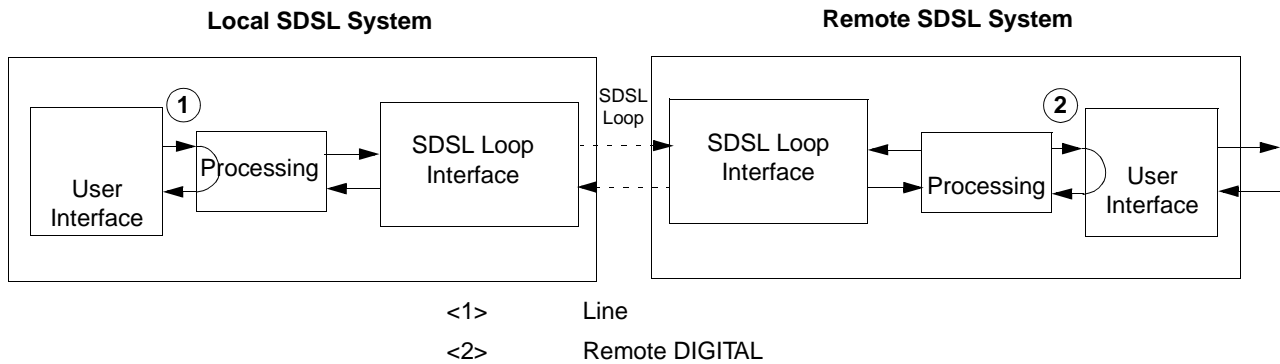

Figure 4-2 Loopbacks Signal Paths
This function is used to enable/disable loopbacks on the user's equipment interface and on the SDSL loop for maintenance purposes. The SDSL systems offered by GDC provide two types of test loopbacks. Figure 4-2 shows the simplified signal paths when the loopbacks are connected. To access the Loopbacks function, select item 1 on the Maintenance Menu.
The SDSL systems offered by GDC provide two types of test loopbacks available from the optional terminal. Figure 4-2 shows the simplified signal paths when the loopbacks are connected.